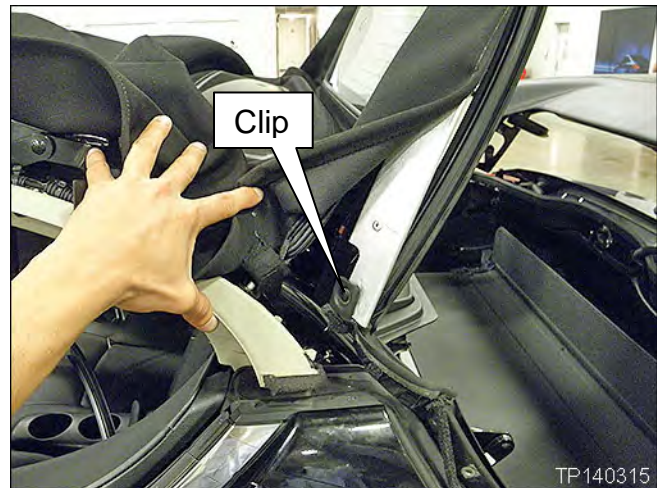

Figure 24
- c. Disconnect the clip shown in Figure 24.